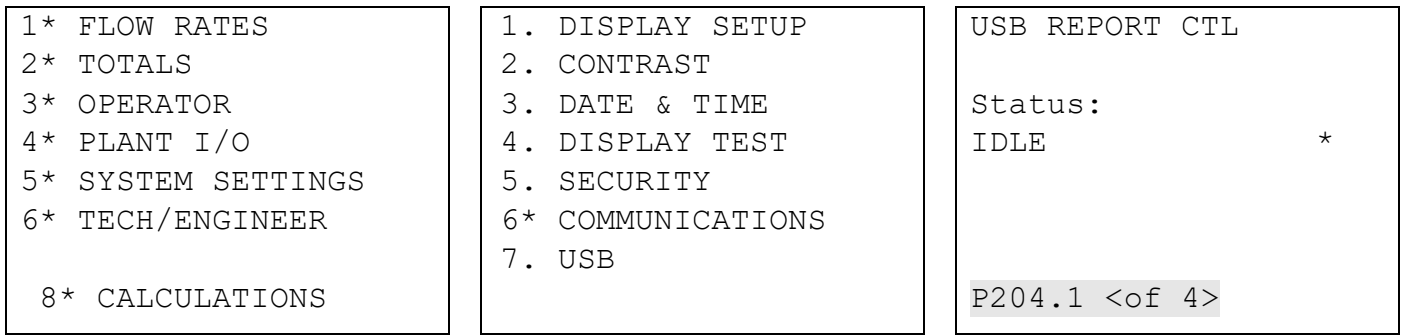

Figure 5-15. USB Report Control Menu
3. Select **USB** from the Tech/Engineer menu. The USB Report Control menu displays (see the screen sequence in *Figure 5-15*).